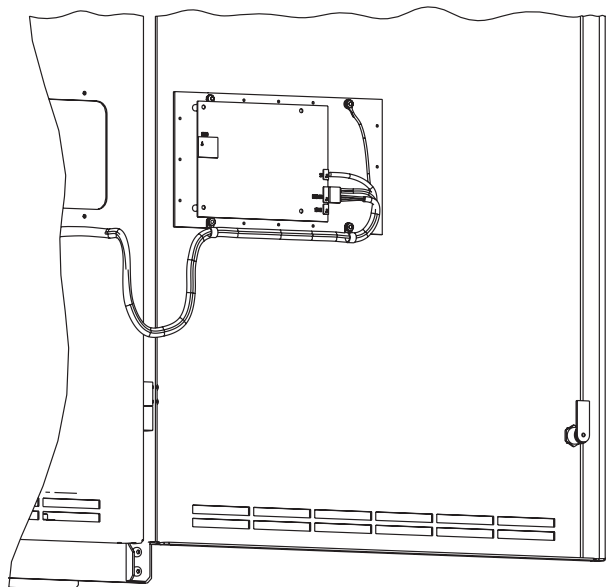

Fig. 25 — ICVC Communication Cables
7. Disconnect the communication cables from the back of ICVC (International Chiller Visual Controller) (Fig. 25).